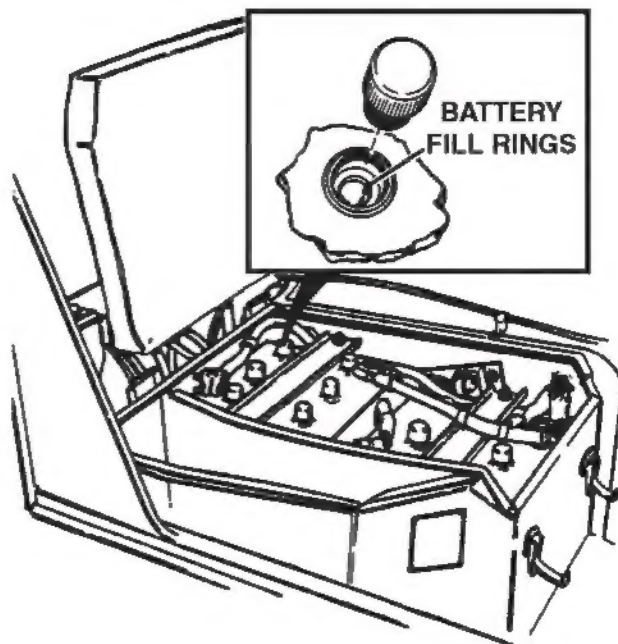

Figure 12-2. Battery Fill Rings.
C. BATTERY CIRCUIT CHECKS (Figure 12-2)